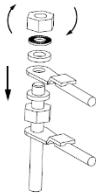

Figure 6 Cable wiring
6、 After the terminal blocks is installed into the terminal post as shown in Figure 6, press the special anti-loose washer, and then fully tighten with the terminal nut(Nut tightening torque requirements are shown in Table III) . Pay attention to the mutual position of the terminals and ensure the electric clearance $\geq 8\text{mm}$.